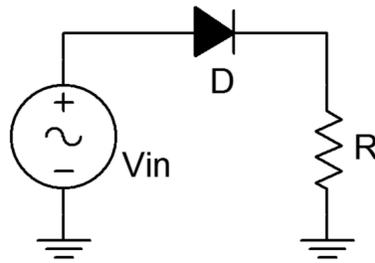

Figure 1
1. Consider the circuit of Figure 1. For an input voltage significantly larger than 0.7 volts, the diode will be forward biased for the positive half of the input sine wave. Therefore, all of the input signal (less 0.7 volts) will appear across the load resistor, R. Conversely, during the negative polarity of the input, the diode will be open, thus blocking any current and producing no voltage across the load.
2. Build the circuit of Figure 1 using  $V_{in} = 10$  volts peak at 1 kHz and  $R = 10$  k $\Omega$ . Set the oscilloscope inputs to DC coupled. Place one oscilloscope probe across the input generator and a second probe across the load resistor. Record the peak amplitude of the output load waveform in Table 1. Also, save an image of the scope trace showing both the input and output waveforms.